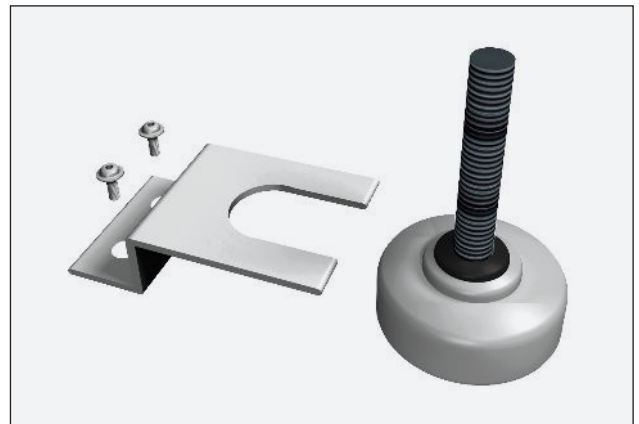

FIG. 2. Securely fasten the anti-tip brackets to the floor.
1. With the appropriate provided hardware, install the anti-tip brackets. See fig. 2.